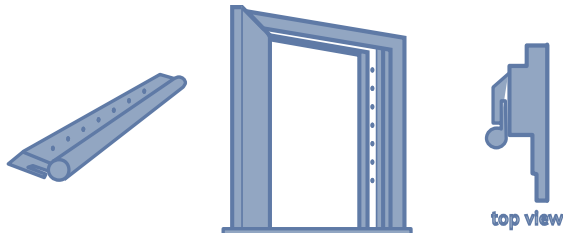

Figure 15: Rolled vinyl stripping with a metal backing.
- **Rolled vinyl stripping** with a metal backing should be tacked to the edge of the door jamb so that the vinyl faces the door and is slightly compressed when the door is closed. Use tin snips to cut the strips to size, and be careful not to leave gaps at the corners. At corner points, the strip ends can be cut at 45° angles and joined together. If pre-drilled tack holes aren't provided, space the nails or tacks six inches apart, (Figure 15).